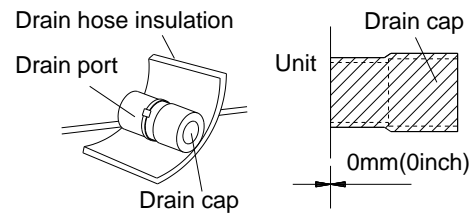

Figure 3-1-14
- (10) The unused drain port also should be insulated properly (Figure 3-1-14).